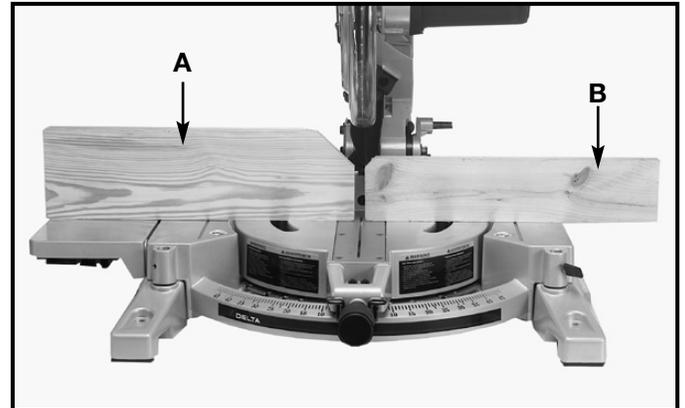

Fig. 31
Holes are provided in the fence to attach an auxiliary fence (A) and (B) Fig. 31. This auxiliary fence is constructed of straight wood approximately 1/2” thick by 3” high by 16 inches long as shown at (B); and 1/2” thick by 5” high by 17” long (A) Fig. 31.